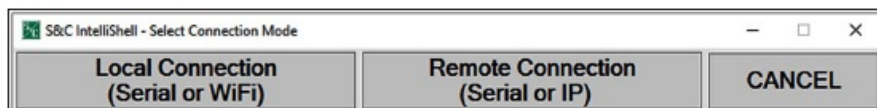

Figure 4. The S&C IntelliShell—Select Connection Mode dialog box.
- **STEP 3.** Select the Local Connection option in the S&C IntelliShell—Select Connection Mode dialog box. See Figure 4.